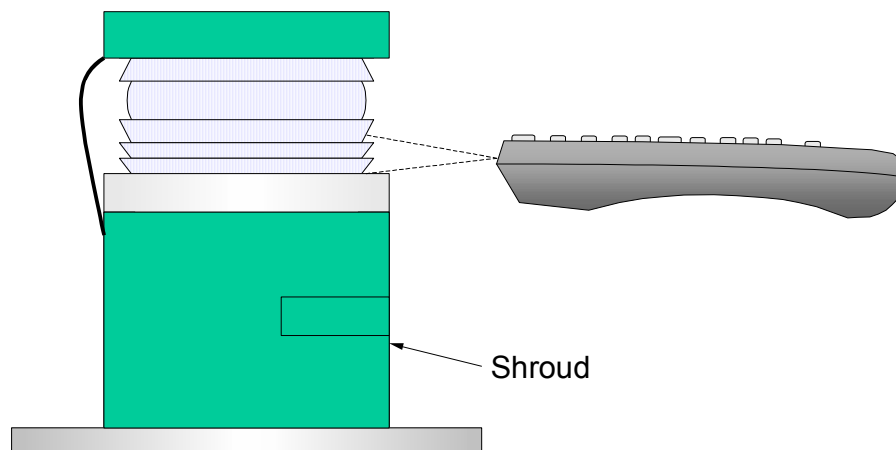

Figure 2.
- **Aim the controller at the lower portion of the lens, as shown in Figure 2.**